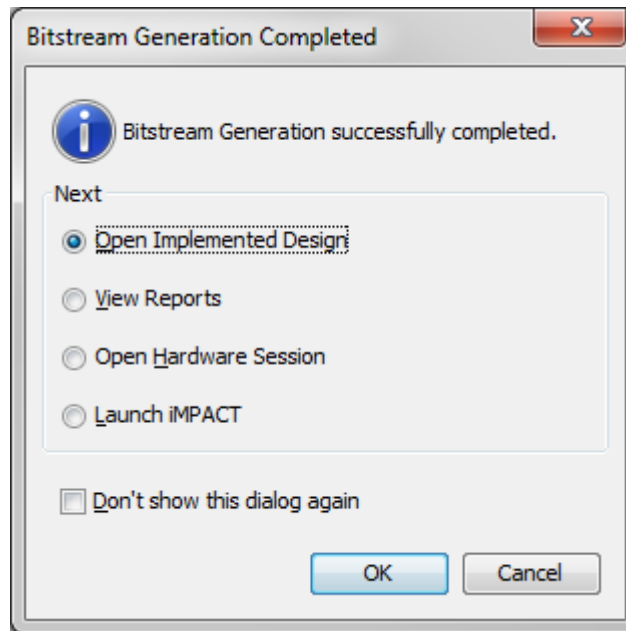

Figure 1.20: Bitstream Generation Completion Dialogue Window
- (r) Once the bitstream generation is complete a dialogue window will open to inform you that the process has been completed successfully, as in Figure 1.20.